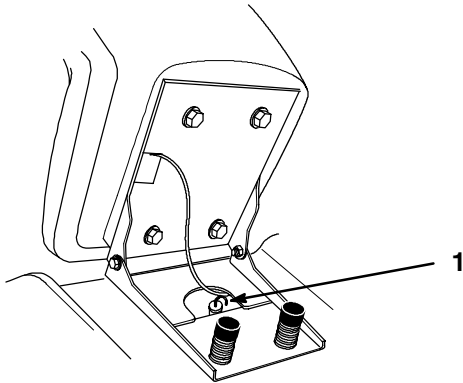

Figure 43
4. Clean around the transmission dipstick (Fig. 43) so dirt cannot fall into the filler hole and damage the transaxle.
5. Pull out the transmission dipstick and wipe the metal end clean (Fig. 43).
6. Slowly pour the specified refill capacity of oil into the filler tube (Fig. 43).